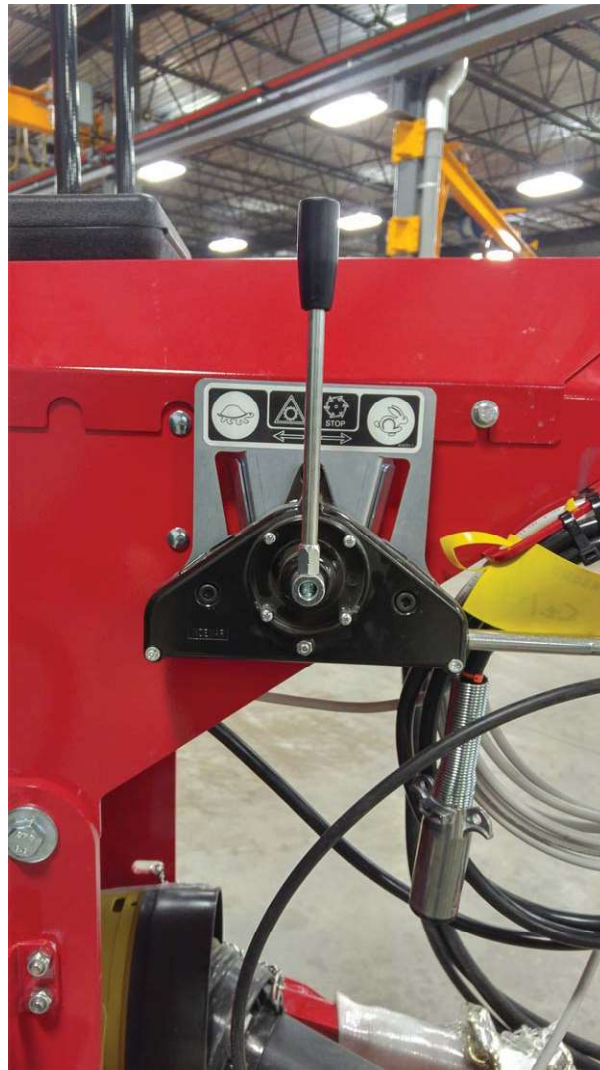

Figure 14 — Speed Lever
1. Select low speed by putting the speed lever in the  position (see Figure 14).
To test the rotating parts at high speed, follow the same steps with the speed lever in  position (see Figure 14).